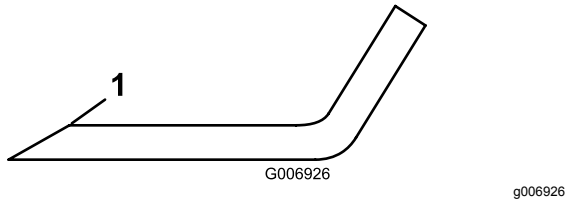

Figure 74
- Inspect the cutting edges of all the blades. Sharpen the cutting edges if they are dull or nicked, sharpen only the top of the cutting edge, and maintain the original cutting angle to ensure sharpness (Figure 74).